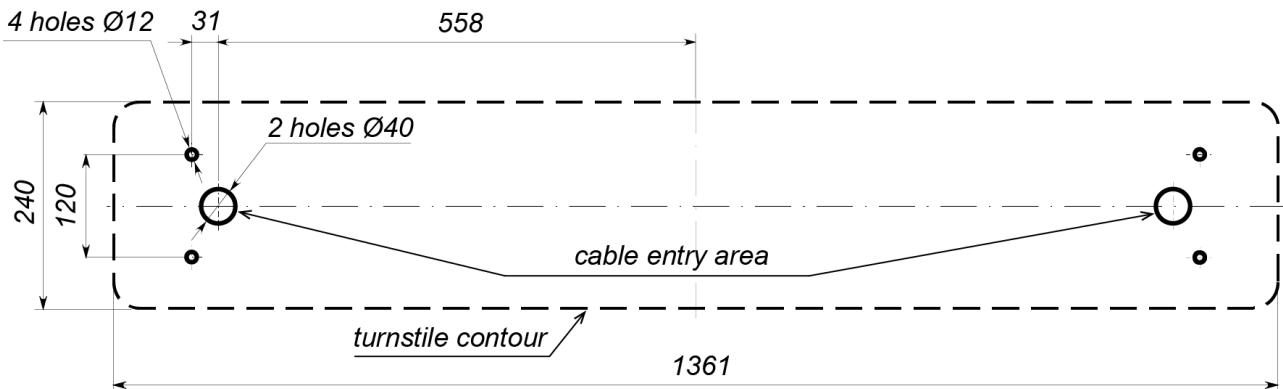

Figure 16. TTD-10A turnstile housing installation layout
- to mark the mounting holes according to Fig. 16;
2. Drill the holes for anchor bolt sleeves to fix the turnstile housing (Ref. Fig. 16).